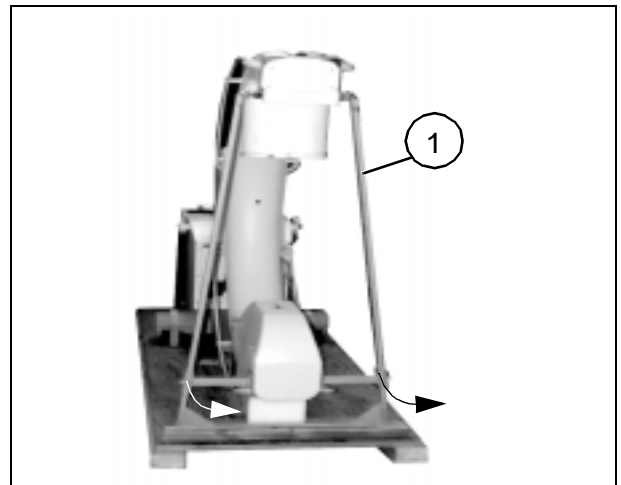

Fig. 5
- Loosen support rods (1/Fig. 5) and remove.